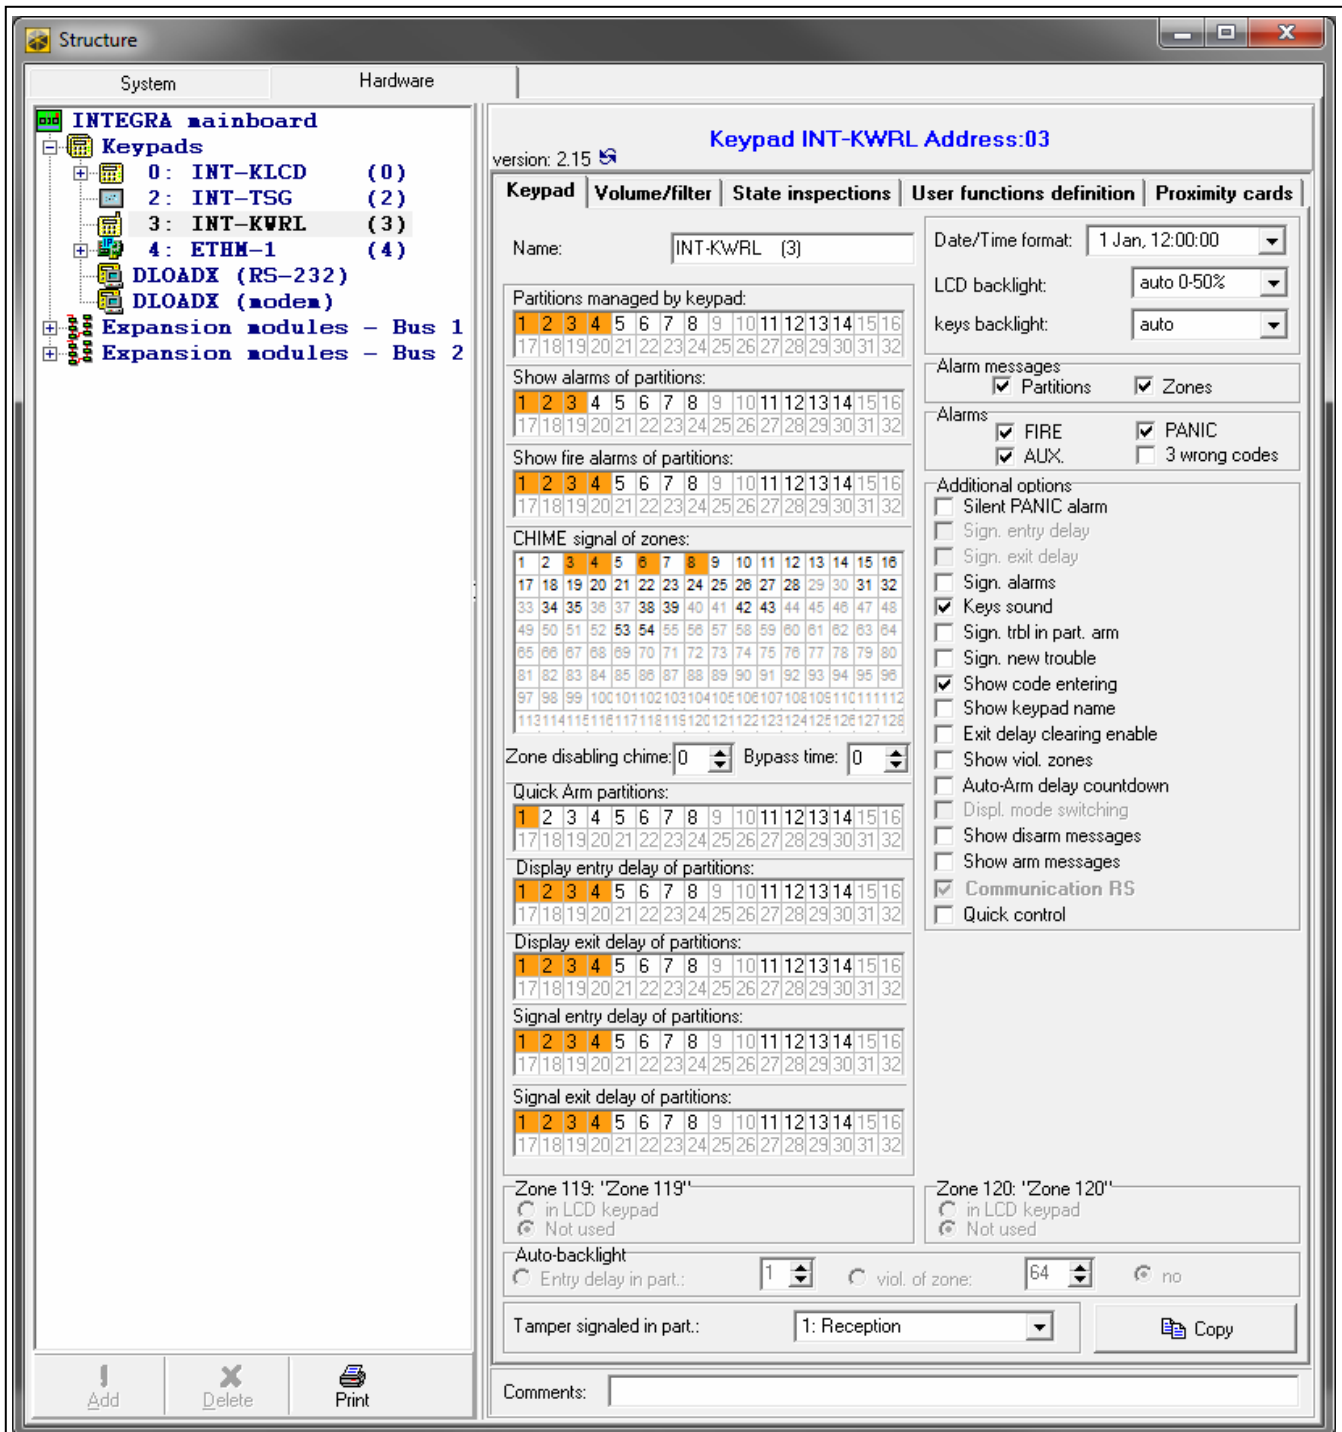

Fig. 5. DLOADX program: keypad settings stored in the control panel – “Keypad” tab.
- DLOADX program: →“Structure” window →“Hardware” tab →“Expansion modules” branch →[keypad name] (see Fig. 5),